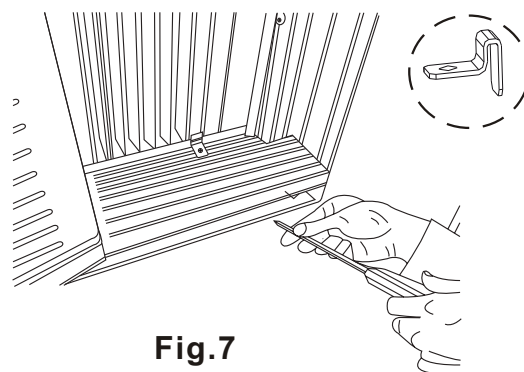

Fig.7
- Place the frame lock between the frame extensions and the window sill as shown(Fig.7). Drive $3/4$ " (19mm) or $1/2$ " (12.7mm) locking screws through the frame lock and into the sill.